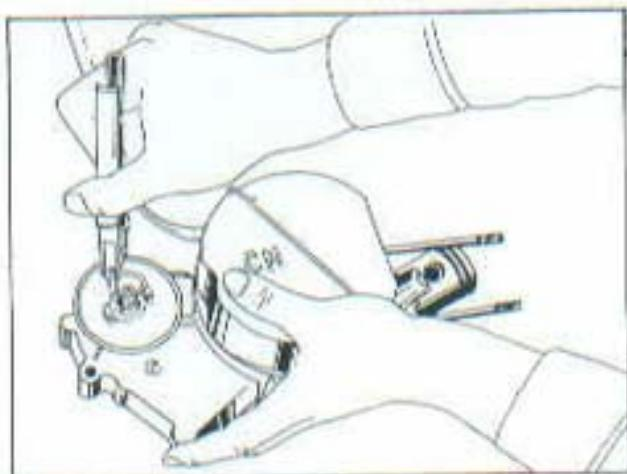

FIG. 18
- 2) With pliers, loosen the circlip and pull the washer, cap, and sprocket off the shaft (Fig. 18).